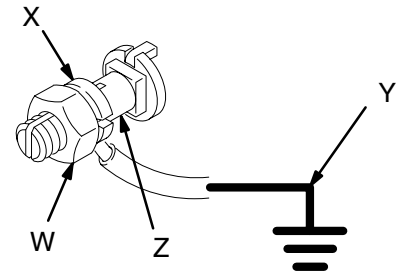

Fig. 1
- *Pump:* Use a ground wire and clamp as shown in Fig. 1.
To ground the pump, loosen the grounding lug locknut (W) and washer (X). Insert one end of a 12-ga (1.5 mm²) minimum ground wire (Y) into the slot in lug (Z) and tighten the locknut securely. Connect the other end of the ground wire to a true earth ground. See Fig 1. *To order a ground wire and clamp, order Part No. 222011.*
2 Install ground wire 222011 (required) here. See Fig. 1 on page 9.
Install ground wire 222011 (required) here. See Fig. 1 on page 9.